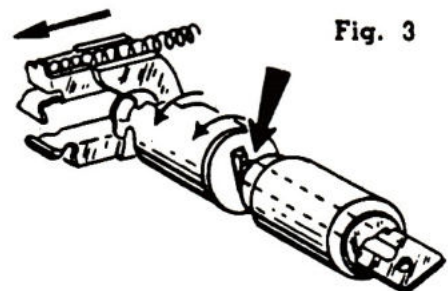
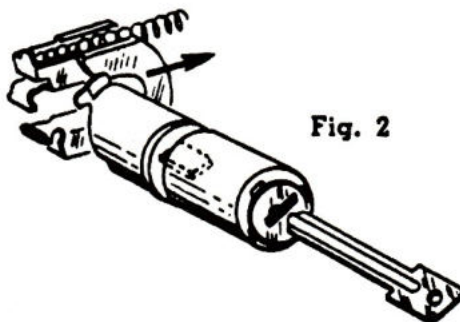

Fig. 3
Fig. 2
2. Remove key and insert service key (which is furnished with a new lock) or a thin pick to the back of the keyway. (Fig. 2) Depress the spring loaded connecting piece until you hear a click. (Fig. 3)